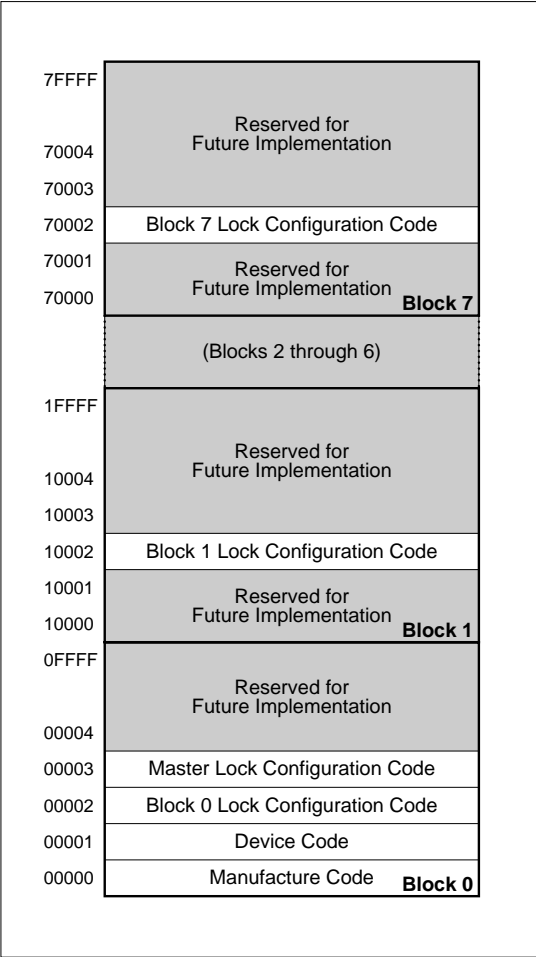

Fig. 2 Device Identifier Code Memory Map
The read identifier codes operation outputs the manufacture code, device code, block lock configuration codes for each block, and the master lock configuration code (see **Fig. 2**). Using the manufacture and device codes, the system CPU can automatically match the device with its proper algorithms. The block lock and master lock configuration codes identify locked and unlocked blocks and master lock-bit setting.
IA = Identifier code address : see **Fig. 2**.
The identifier code operation is initiated by writing the Read Identifier Codes command. Following the command write, read cycles from addresses shown in **Fig. 2** retrieve the manufacture, device, block lock configuration and master lock configuration codes (see **Table 4** for identifier code values). To terminate the operation, write another valid command. Like the Read Array command, the Read Identifier Codes command functions independently of the VPP voltage and RP# can be V_{IH} or V_{HH}. Following the Read Identifier Codes command, the following information can be read :
1. X selects the specific block lock configuration code to be read. See **Fig. 2** for the device identifier code memory map.